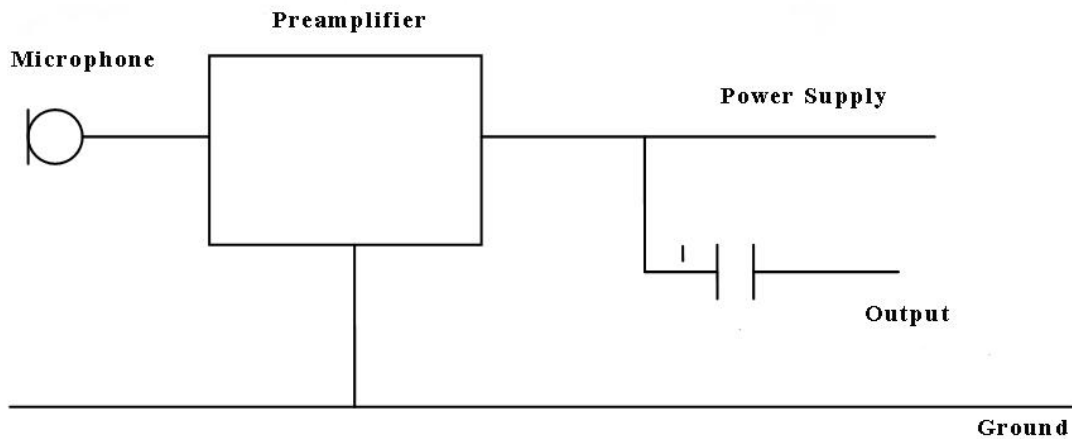

Figure 5-1 Schematic diagram of circuit connections
5.1 Circuit connection: see Figure 5-1 below.